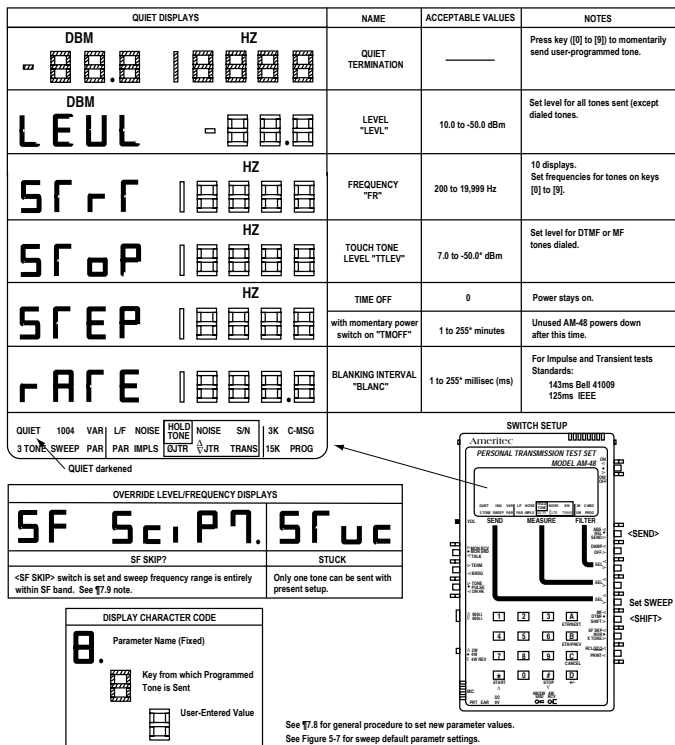

Figure 7-4. Parameter Settings from SWEEP SEND Display
See ¶5.7 for an example of setting the parameter values for this SEND mode. Figure 5-7 shows the displays with the default parameter settings. Figure 7-4 shows the general displays.
1. See Figure 7-4. Set switches per the SWITCH SETUP illustration, and set the SEND cursor per the menu illustration.
2. See ¶7.8. Set the parameter values for the desired sweep per the acceptable values and notes in Figure 7-4.